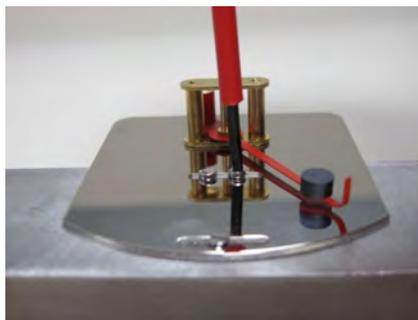

Fig. 62
- 13.** ▶ Set the display base plate on the device body and lightly tighten the mounting screws, so that the base plate can still be moved (Fig. 62). Make sure that the